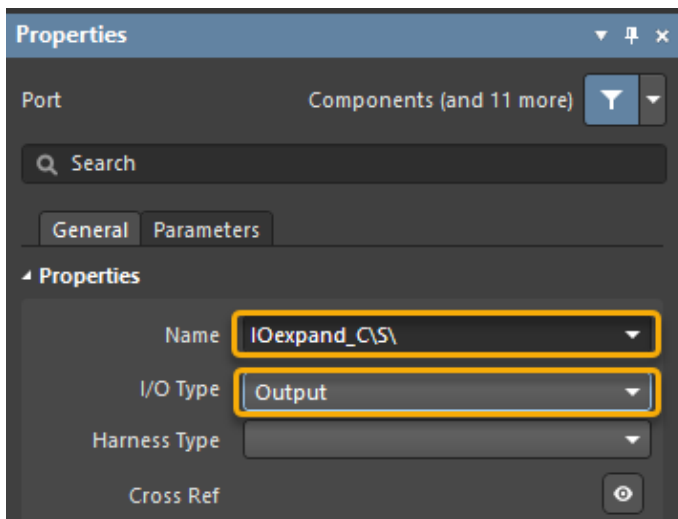

Figure 24. Port Properties dialog
23. Set the **I/O Type** to *Output* as shown in *Figure 24*.